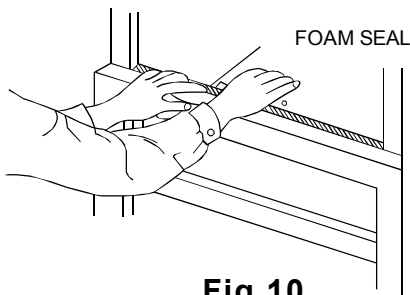

Fig.10
D. Cut Window sash seal foam and insert it in the space between the upper and lower sashes (Fig.10).